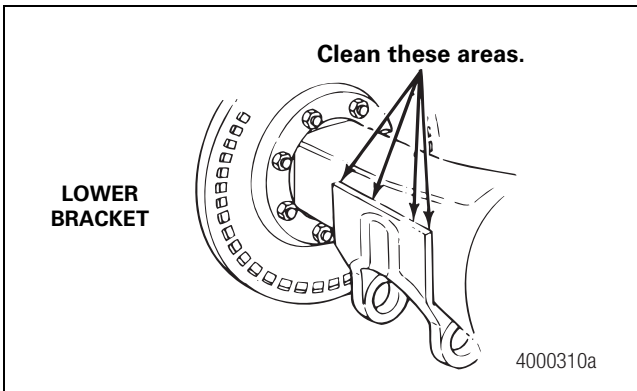
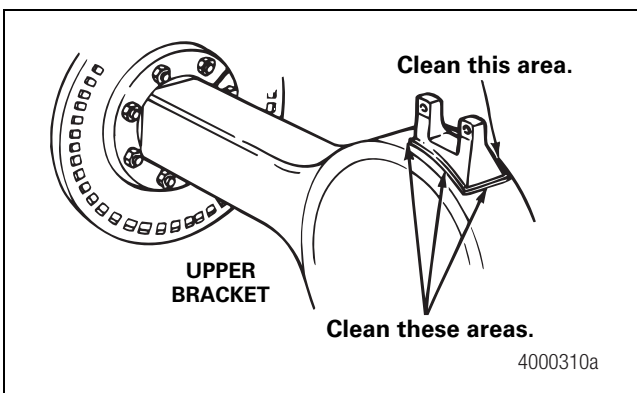

Figure 4.12
Figure 4.13
- For suspension bracket welds, clean both lower and upper suspension brackets and the areas of the axle housing around each bracket. Use a wire brush and a cleaning solvent that will remove dirt and grease from these areas. Figure 4.12 and Figure 4.13.